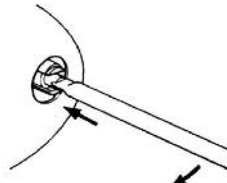

Fig. 3
4. Remove the emitter from spring-loaded holders by pushing one end further into its holder and pulling the end that is now free towards you as shown in Fig. 3.